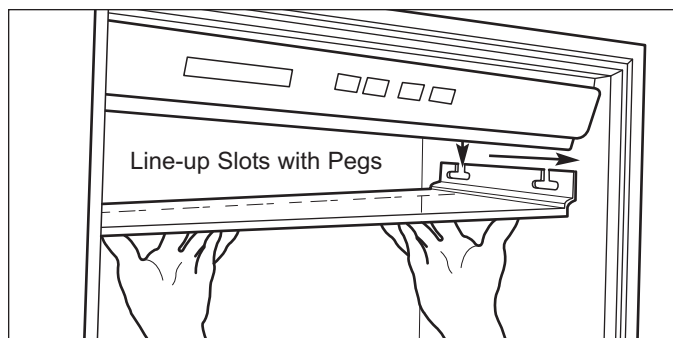

Figure 7-11. Upper Light Diffuser Removal
3. Lower diffuser down and pull forward from the unit. (See Figure 7-11)